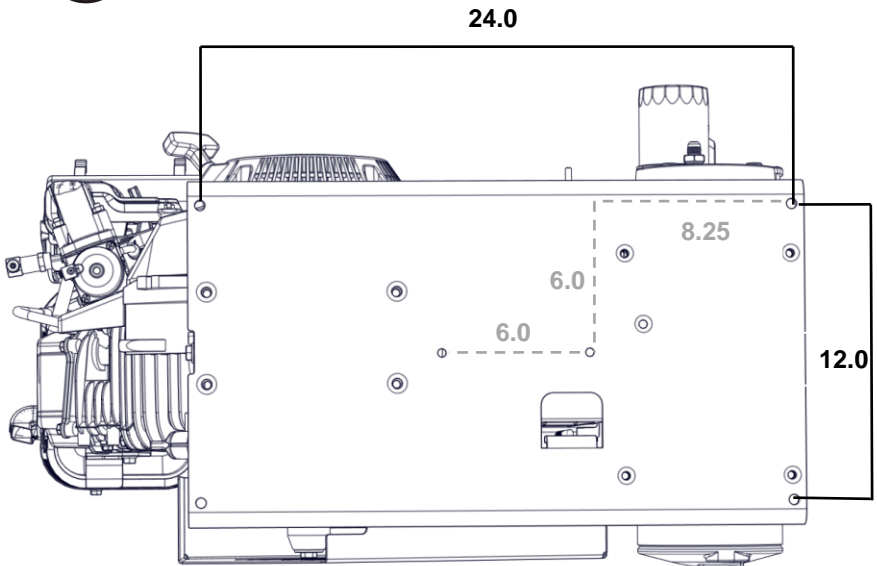

Figure 12 – Mounting with base plate
- There are four holes, near the four corners of the base plate which can be used as mounting bolt locations. Holes can also be drilled through the bottom of the base plate if alternate locations are required (Figure 12).
- There are two optional M8 Bolt holes, shown by the grey outlines (Figure 12).